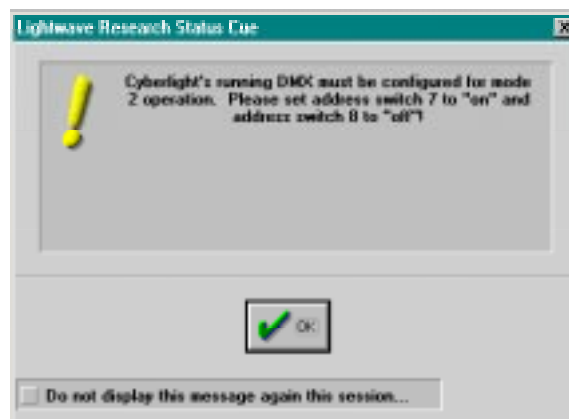

Figure 4.4. Special Settings Window
4. If special switch settings are required for the fixture(s), *Status Cue* will prompt you to make the necessary changes. If you do not wish to be reminded of the special setting(s), click the **Do not display this message again during this session...** check box. Refer to Figure 4.4.